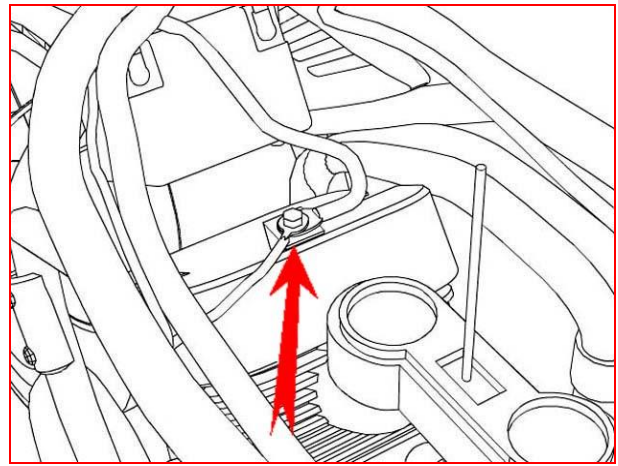

Figure 15
19. Connect TFI ground wire to battery negative cable as shown (fig 15)